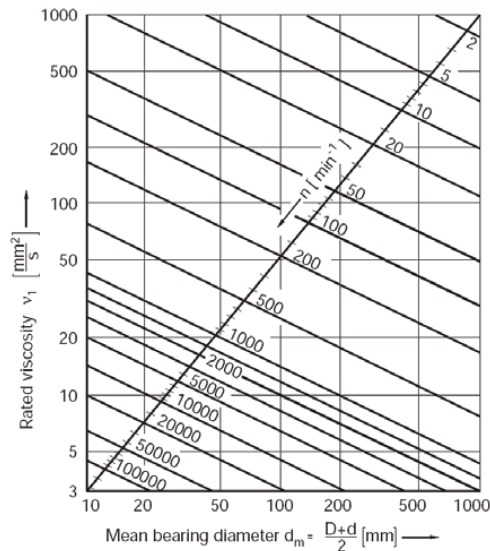

Figure 19 - Rated viscosity table
3. To determine the rated oil viscosity for a bearing, find the mean bearing diameter on the bottom of Figure 19 and draw a line straight up to intersect the corresponding bearing rpm line. Follow the chart to the left to find the rated viscosity for that bearing.
To find the required viscosity of a lubricant, you must first solve for the operating viscosity by using the following equation. Once the operating viscosity has been determined, it can be used in Figure 19 to determine the required viscosity of the lubricant.
- Now find 16 mm²/s on the operating viscosity(v) axis in Figure 19 and draw a vertical line until it intersects the operating temperature of 90 °C. Compare this intersection point to the diagonal required viscosity lines. The intersection point falls between the 100 and 150 diagonal required viscosity lines.